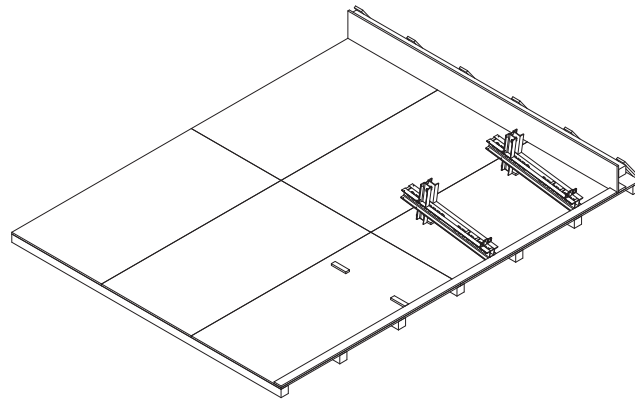

Fig. A2.01
1. Lay the Steel Waler VSRZ on the assembly area. Make sure it is placed directly against the stopping boards. The long stub points upwards. (Fig. A2.01)